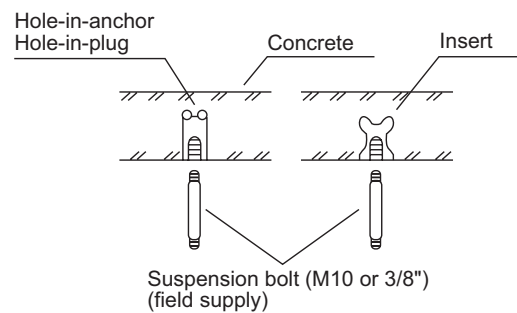
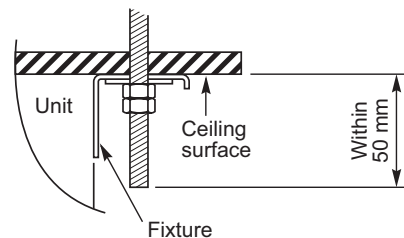

Fig. 2-57
Fig. 2-59
- Insert suspension bolts (Fig. 2-57).
- Screw in the suspension bolts, allowing them to protrude from the ceiling (Figs. 2-57 and 2-58). The distance of each exposed bolt must be of equal length within 50 mm. (Fig. 2-59)